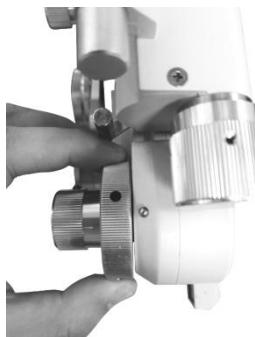

Fig.12
To obtain required diopter setting quickly, use strong spherical power knob ②2, then value S increases or decreases progressively in 3.00D diopter steps (Fig.12).